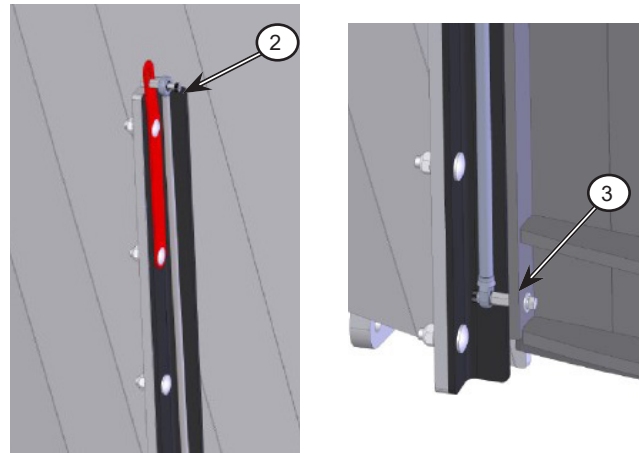

Figure 3: Attachment of the door sensor to the tub
- b. Remove the hardware (2) fastening the door sensor to the tub, as per *Figure 3*.
- c. Remove the hardware (3) fastening the door sensor to the unload door, as per *Figure 3*.